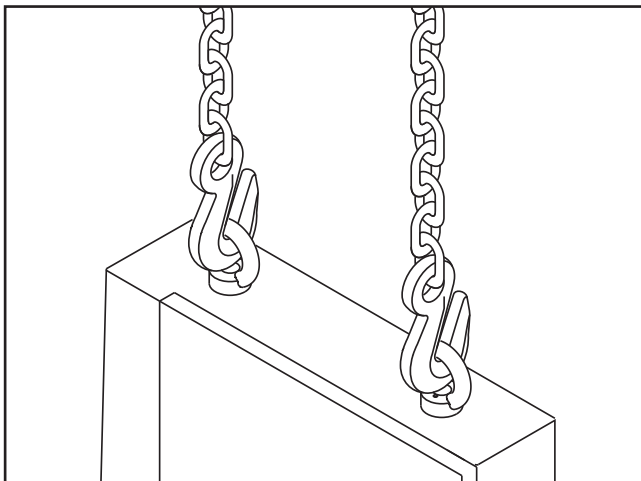

Figure 7. Lifting eye bolts installed.
3. Install the lifting eye bolts, as illustrated in **Figure 7**, making sure they are threaded all the way in.